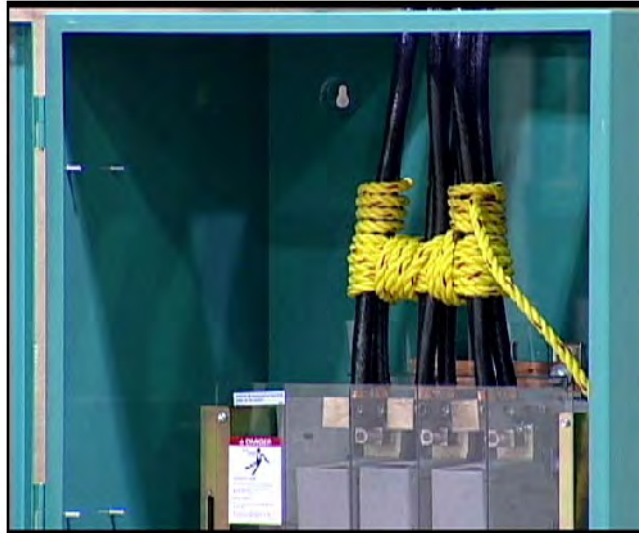

FIGURE 9. SECURING THE POWER CABLES
7. For 800-1000 amp transfer switches used on a circuit capable of delivering 50,000 amps @ 600 volts, wrap the line cables together with nominal 1/2-inch nylon rope, or rope having a minimum tensile strength of 4200 pounds, at five inches from the line terminals with four wraps (see Figure 9). This is not required for 1000 amp Closed Transition switches.